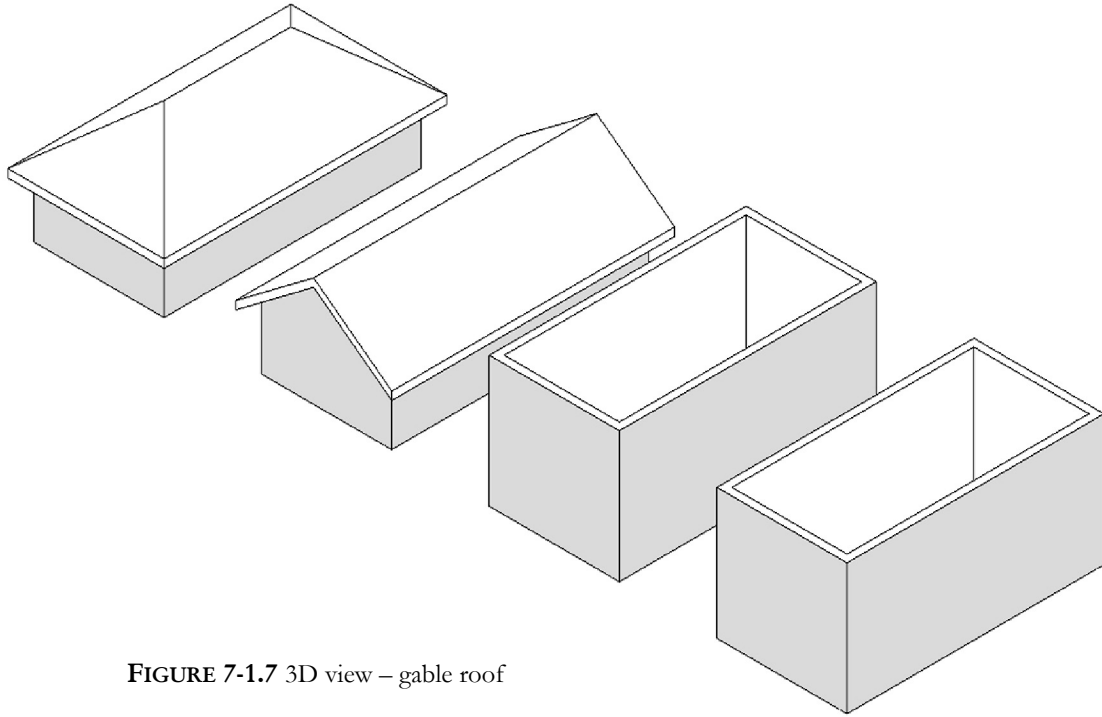

FIGURE 7-1.7 3D view – gable roof
25. Switch to the **3D** view (Figure 7-1.7).